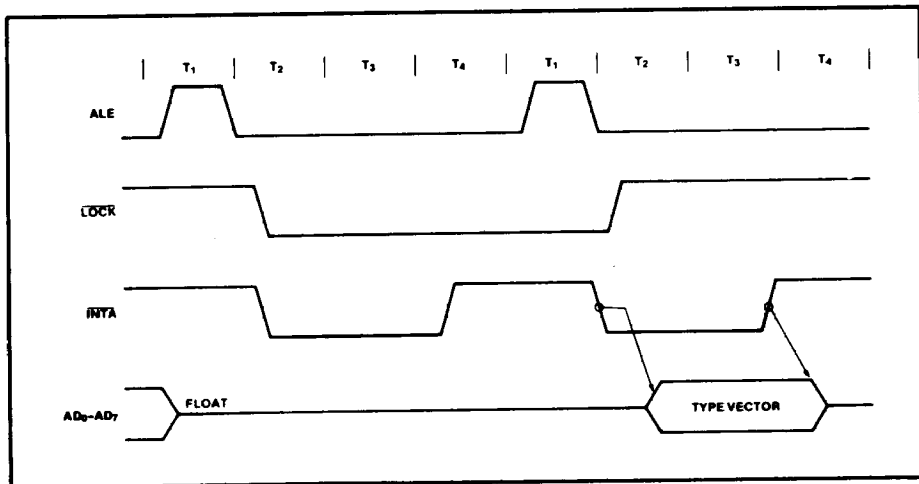

Figure 9. Interrupt Acknowledge Sequence
During the response sequence (See Figure 9), the processor executes two successive (back to back) interrupt acknowledge cycles. The 8088 emits the LOCK signal (maximum mode only) from T2 of the first bus cycle until T2 of the second. A local bus "hold" request will not be honored until the end of the second bus cycle. In the second bus cycle, a byte is fetched from the external interrupt system (e.g., 8259A PIC) which identifies the source (type) of the interrupt. This byte is multiplied by four and used as a pointer into the interrupt vector lookup table. An INTR signal left HIGH will be continually responded to within the limitations of the enable bit and sample period. The interrupt return instruction includes a flags pop which returns the status of the original interrupt enable bit when it restores the flags.
The basic difference between the interrupt acknowledge cycle and a read cycle is that the interrupt acknowledge (INTA) signal is asserted in place of the read (RD) signal and the address bus is floated. (See Figure 9.) In the second of two successive INTA cycles, a byte of information is read from the data bus, as supplied by the interrupt system logic (i.e. 8259A priority interrupt controller). This byte identifies the source (type) of the interrupt. It is multiplied by four and used as a pointer into the interrupt vector lookup table, as described earlier.